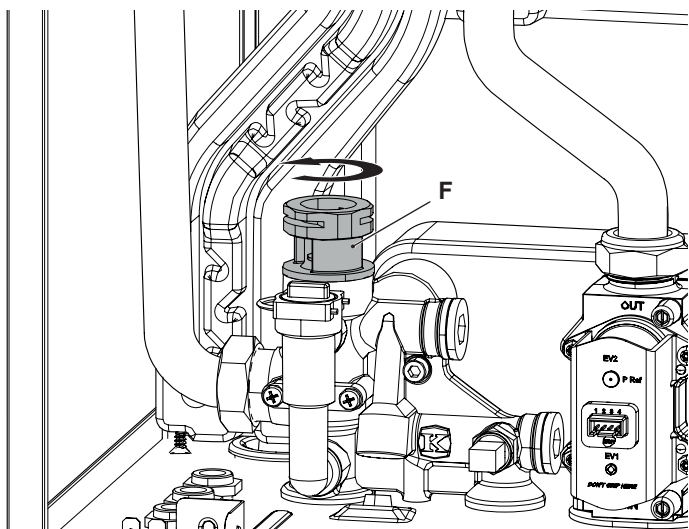

Figure 8.5
- 4 Unscrew the three way diverter valve "F" Figure 8.5.